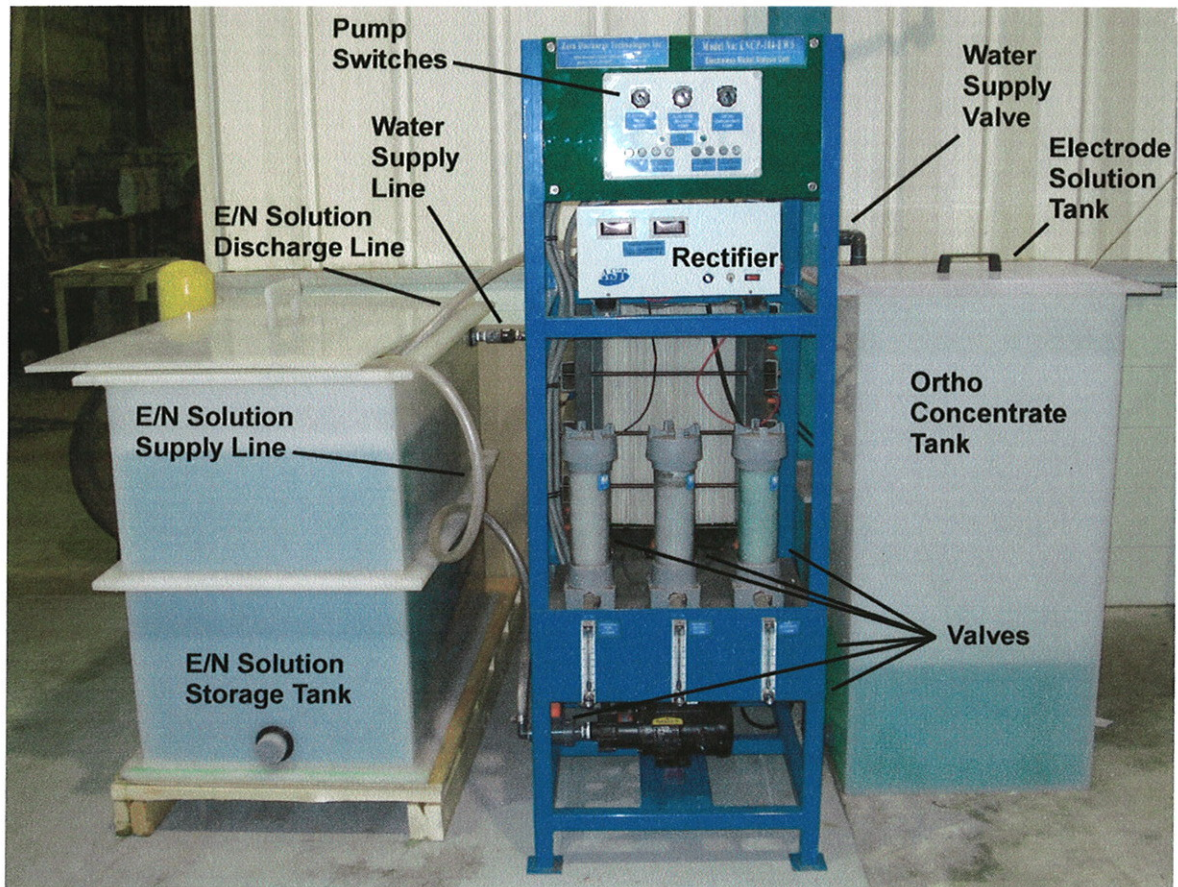

Figure 1. E/N Dialysis Unit
1. Ensure E/N Solution Discharge Line is in E/N Solution Storage Tank (figure 1).
- a. Disconnect Water Supply Line to E/N Solution Storage Tank (figure 1).